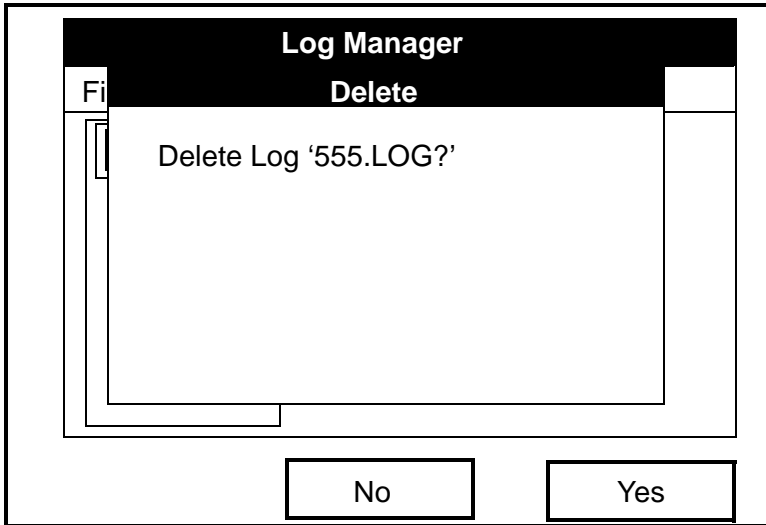

Figure 8-8: The Delete Confirmation Window
3. A delete confirmation window opens, as shown in Figure 8-8 on the next page. Press [F2] (No) to stop the deletion, or [F3] (Yes) to delete the log.